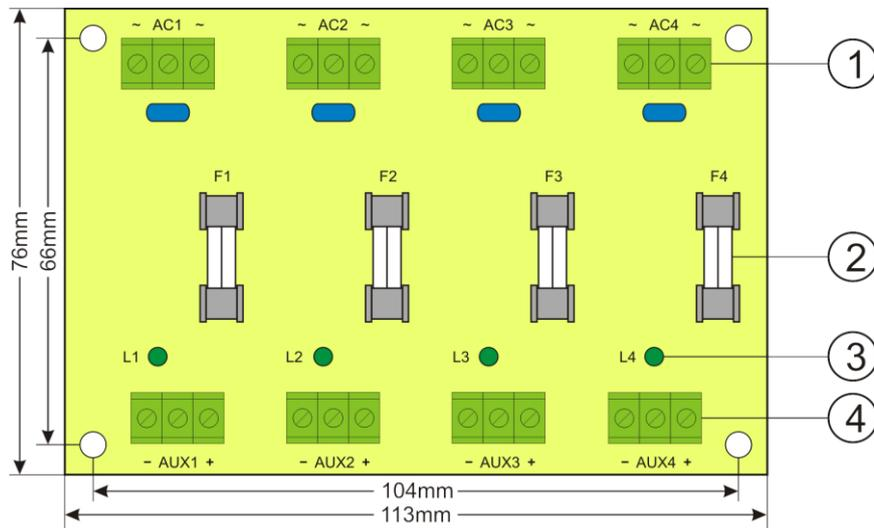

Fig. 2. The view of the LP4/SEP strip.
1.3 Description of components and connectors of the power supply (Table.1, Fig.2).
Table 1 Components of the LP4/SEP strip (see Fig. 2).